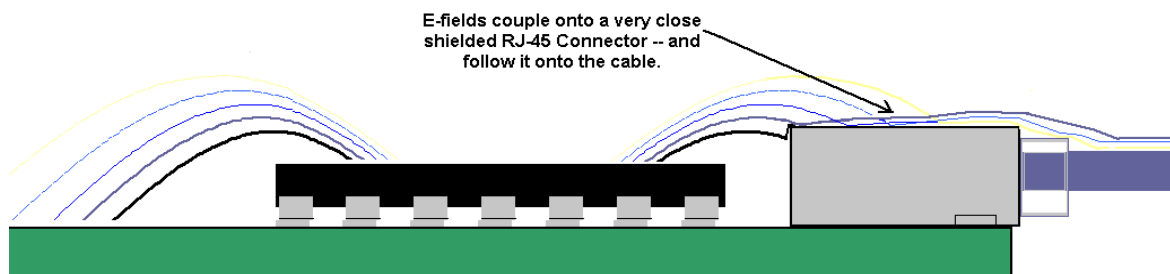
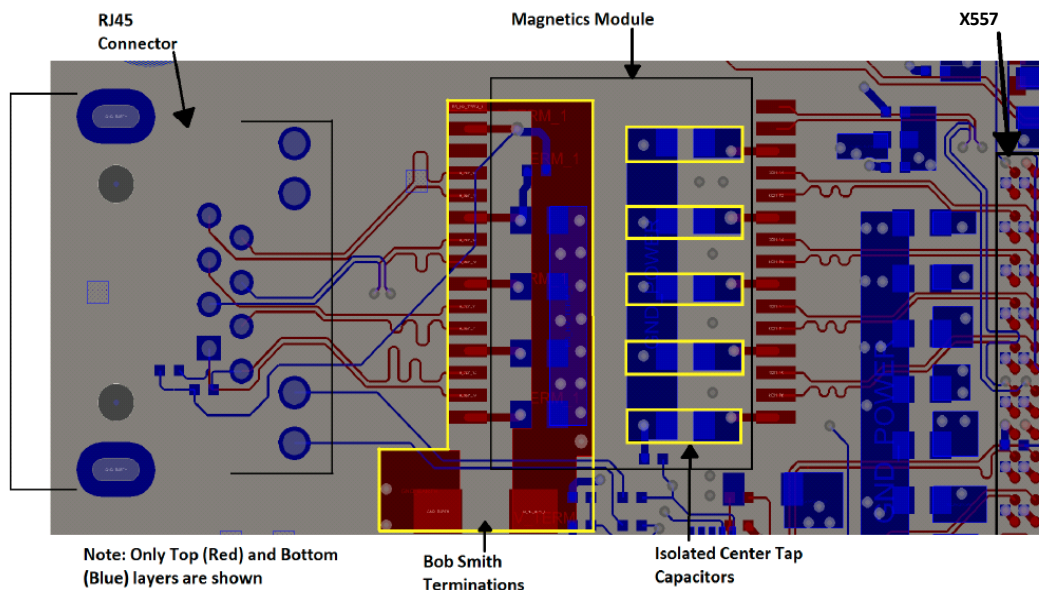

Figure 9-2 Effect of Device Placed Less Than One Inch from the RJ-45 Connector
Figure 9-3 Transformer Bypass Components
The X557, referred to as a LAN silicon in Figure 9-3 and Figure 9-2, must be at least one inch from the I/O back panel. To help reduce EMI, the following recommendations should be followed:
The associated grounding scheme (blue) with the front-end of the chip is shown in the microstrip traces between the transformer and the RJ-45 (see Figure 9-3).
1. The ground is split underneath the magnetics, with the chassis ground being present under the front-end (Figure 9-3), and the circuit ground under the X557 side of the magnetics. Thus, the MDI traces on the line side are referenced to chassis ground.
5. In Figure 9-3, the Hi-POT clearance for cable discharge is shown and designed with ≥ 80 mils of clearance from the ground. Note that the breakdown voltage in FR-4 is lowest in the x-y axes planar to the PCB and highest in the z-axis between layers.